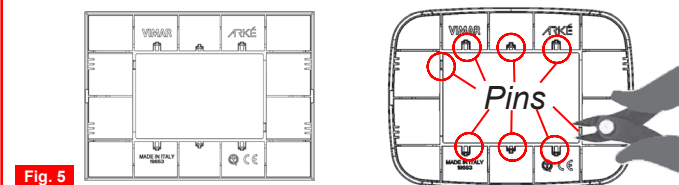

Fig. 5
N.B. For mounting plates VIMAR series **ARKE' Classic, ARKE' Round** versions (**Color-tech and Tecno-Basic**) remove with a cutter **8 pins** on the back of the plates **ARKE'** as shown in Figure 5.